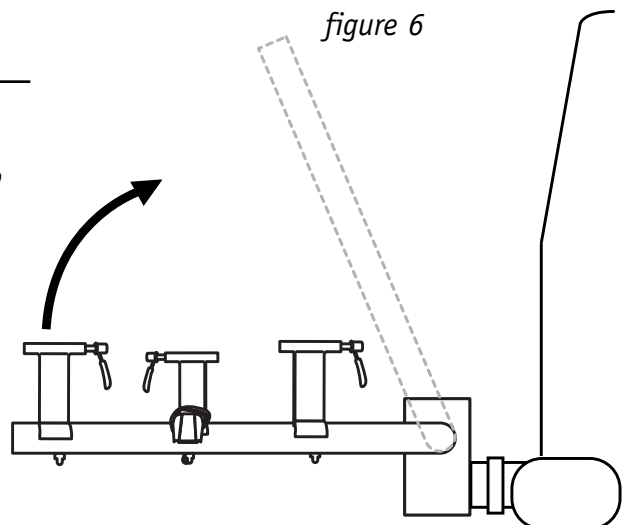

figure 6
1. To put the Bike Tube (A) in the upright position, remove the Long Clevis Pin (P), and rotate the Bike Tube (A) up as far as it will go. Re-install the Long Clevis Pin (P) back into the same hole on the Hitch Foot (B) and snap on the Clevis Pin Clip (Q). This will secure the Bike Tube in the upright position and out of the way. See figure 6.
2. The positions of the Fork Risers (I&J) and Wheel Trays (K) can be reversed if different spacing is desired for your bikes.